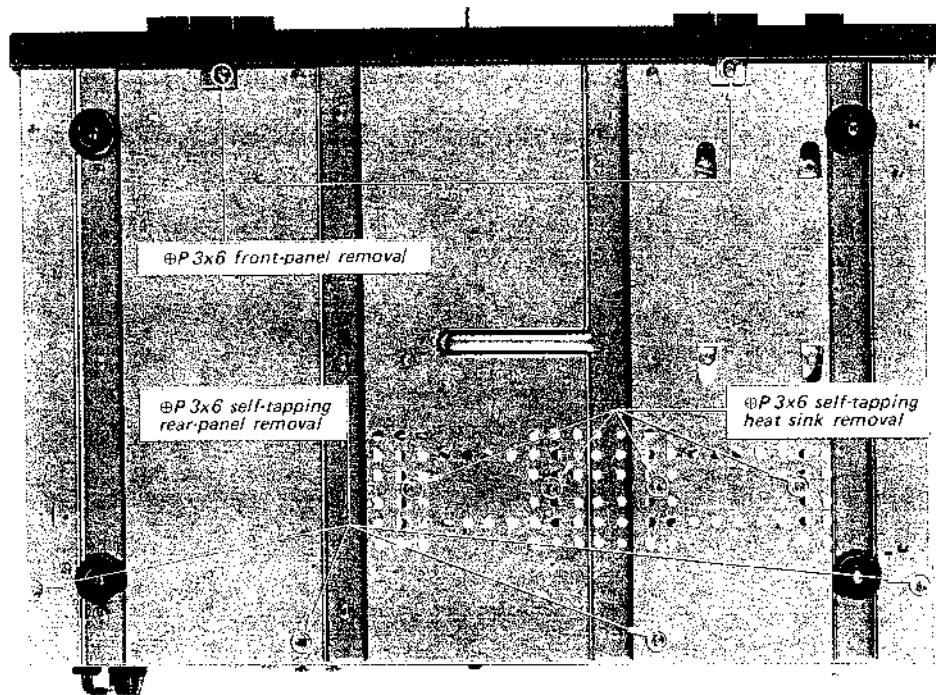

Fig. 2-4 Bottom view
5. Remove the two screws (\oplus P3x6) from the front bottom edge of the amplifier securing the front panel to the front subchassis, as shown in Fig. 2-4. This frees the front panel.
2. Remove the four self-tapping screws ($\text{ØP } 3 \times 6$) securing the rear panel to the bottom plate, as shown in Fig. 2-4. This frees the rear panel.
2. Remove the two self-tapping screws (\emptyset P 3 \times 6) securing the heat sink to the bottom plate as shown in Fig. 2-4.